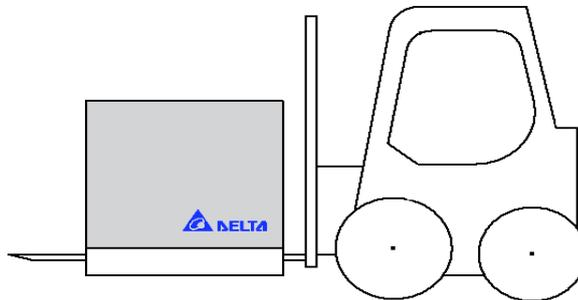

Figure 2.2 Fork lift transportation illustration
1. Please extend the fork lift under the wooden pallets properly, otherwise it may cause tilting injuries as shown in Figure 2.2 below.